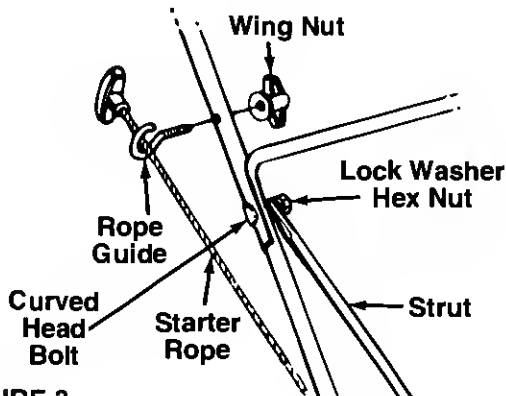

FIGURE 3.
2. Insert curved head bolts through the upper and lower handle from the outside in. Place struts over carriage bolts. Secure loosely with lock washers and hex nuts. See figure 3.